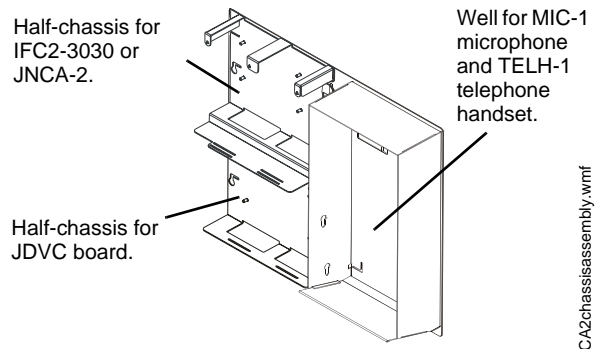

Figure 2.1 CA-2 Chassis Assembly
- CA-2 - This chassis assembly occupies two rows of a CAB-4 series enclosure. The left side accommodates a JDVC Series board mounted on a half-chassis and one IFC2-3030 or JNCA-2 mounted on a half-chassis. The right side houses a microphone and handset well. (Refer to Figure 2.1.)